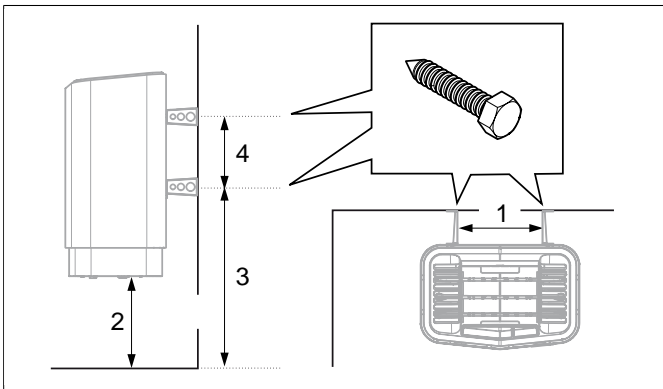

Figure 10: Dimensioning
9. Position the bracket screws according to the specified dimensioning see **Figure 10**, Page 5.